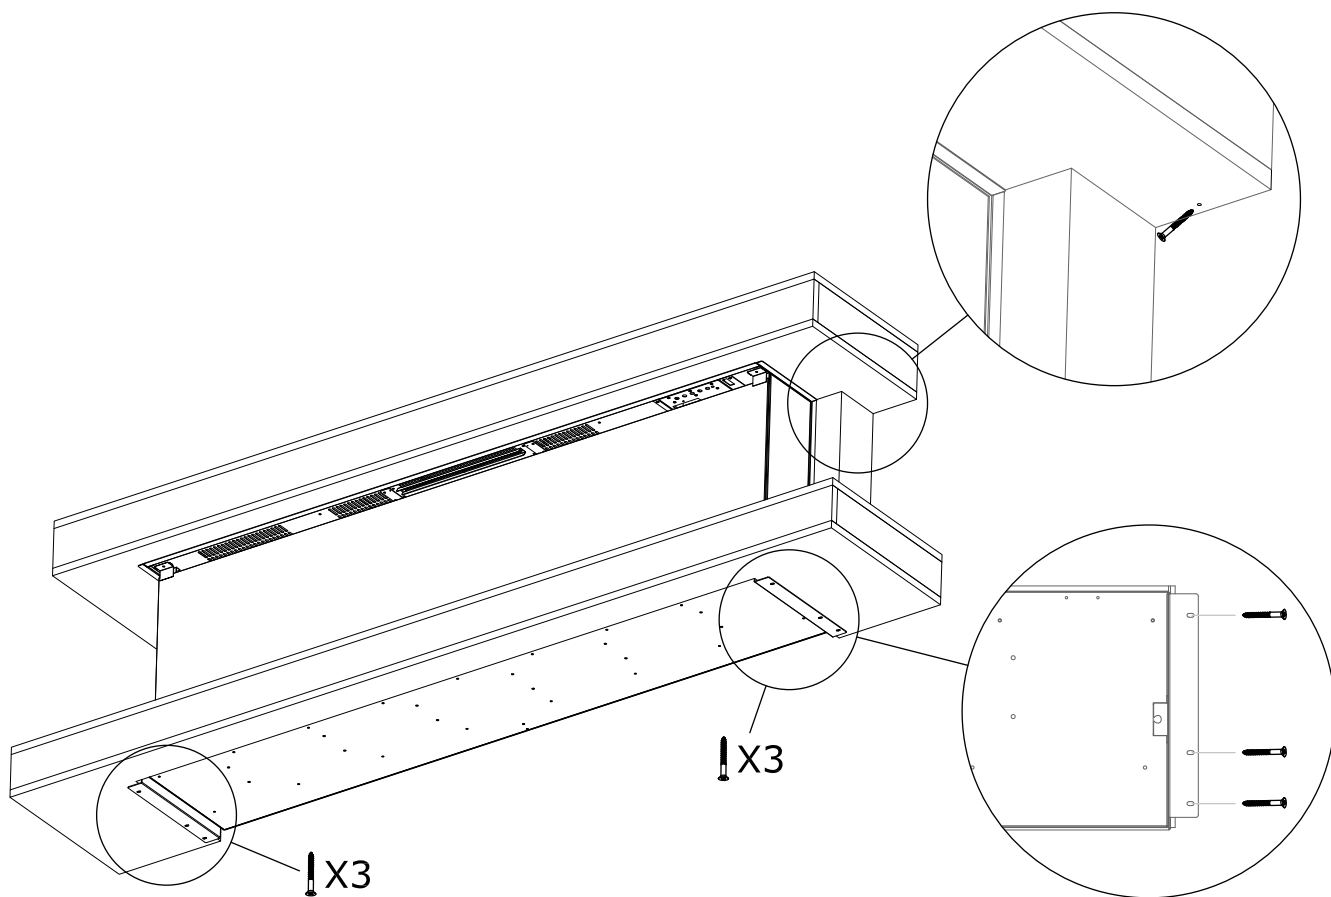

Figure 3.13 - Secure Bottom Section into Brackets and Additional Location for Screws
6. Slide this assembled top section of the mantel down onto the fireplace so the mantel legs slide into the pockets of the bottom section of the floating mantel assembly. See Figure 3.13.